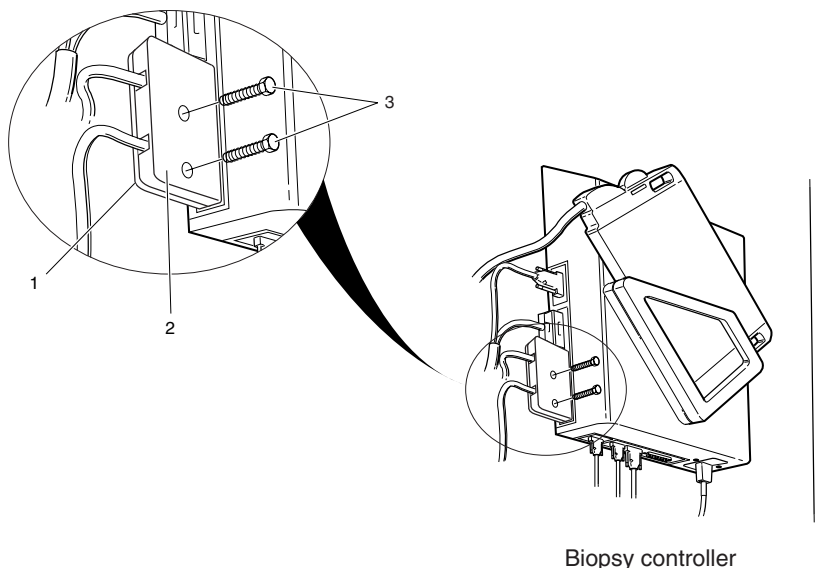

Fig. 10 Mounting the touch protection
- Place the plastic plate (1/Fig. 10) behind the connectors X203 and X204.
- Place the plastic cover (2/Fig. 10) on the other side of the connectors.
- Fasten the plastic screws (3/Fig. 10).